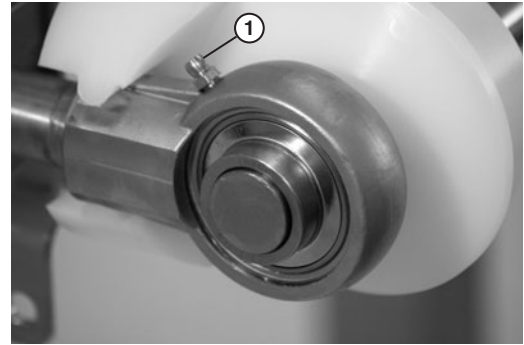

Figure 55
1. Add grease to the bearing using the zerk fitting (**Figure 55, item 1**) on the exterior of the bearing shaft assembly.